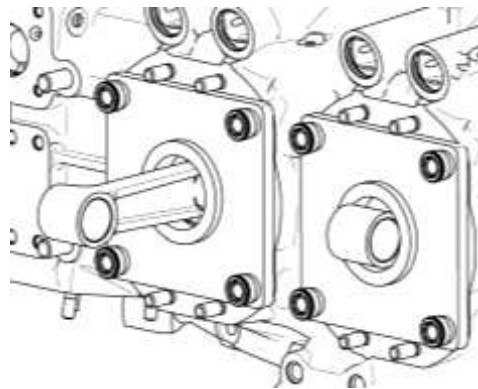

Figure 19
⚠ CAUTION ANYTIME A CYLINDER IS REMOVED, INSTALL TORQUE HOLD-DOWN PLATES (FIGURE 19) OR EQUIVALENT TO ENSURE A UNIFORM LOAD ON THE MAIN BEARINGS IN THE CRANKCASE.
C. Install Torque Hold-Down Plates (ST-222) or equivalent as shown in Figure 19.